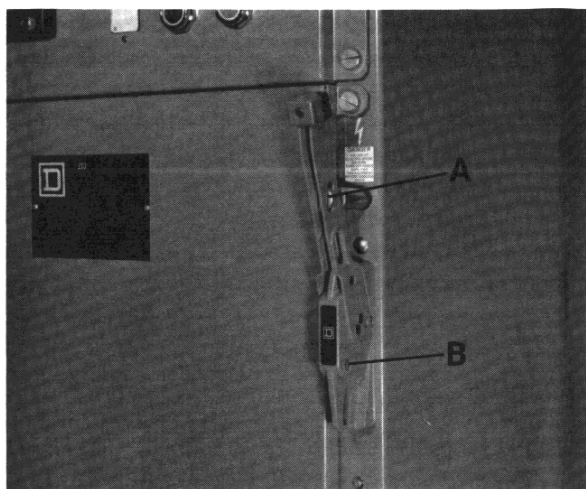

FIGURE 14
4. Isolation switch handle thumb screw interlock (A) (See Figure 14) prevents opening isolation switch when control circuit is energized.